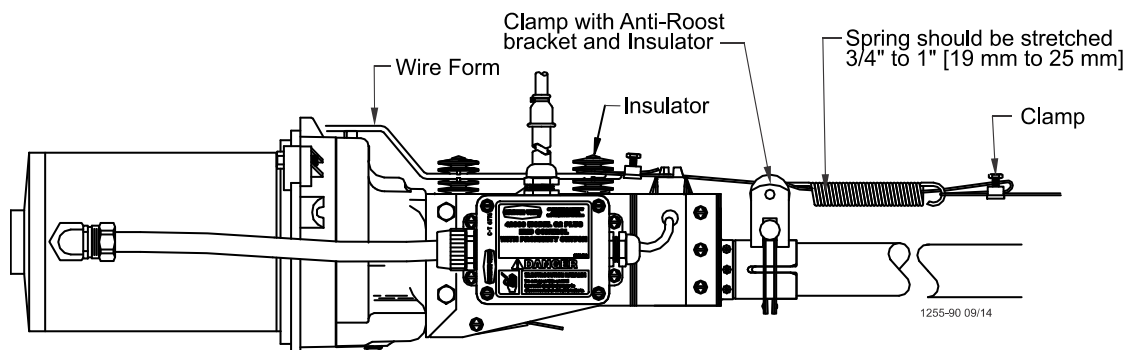

Figure 72. Anti-Roost Installation at the Control Unit
9. At the control unit, after clamping the cable to the spring, cut the cable about 8" to 10" [200 to 250 mm] longer than necessary. Feed the end of the cable through the center of the spring, around the first insulator on the control unit, and clamp the cable using the cable clamp supplied with the control unit. See **Figure 72**.
10. Install the wire form on the control unit insulators. Be sure the guard snaps into the retainers molded into the insulators. See **Figure 72**.